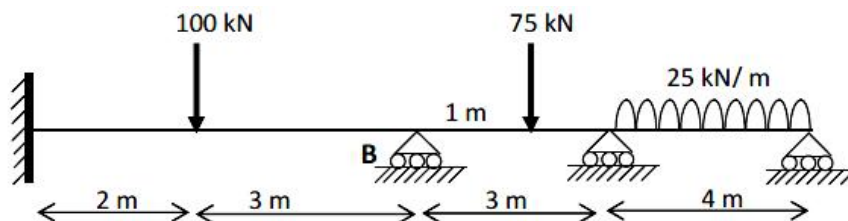

Fig.1
4. Analyse the beam shown in the Fig.1 by moment distribution method. Take $I = 100 \times 10^6 \text{ mm}^4$.